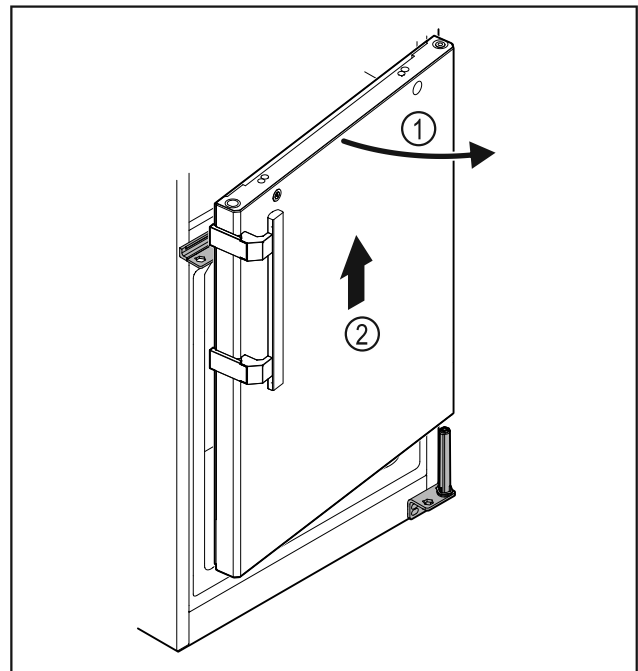

Fig. 28
- ▶ Open the door Fig. 28 (1) slightly, lift it straight up by around 200 mm and take it off Fig. 28 (2).